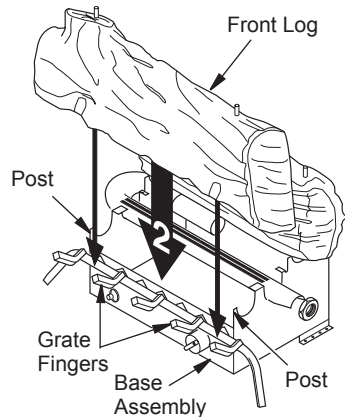

Figure 27 - Installing Front Log
2. Place front log onto grate on front of base assembly. The log will fit down between grate fingers and posts on front of base assembly (see Figure 27). This log may be turned to face either direction.